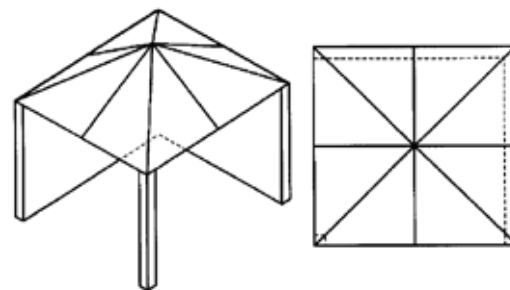

Figure 2. Partial Enclosure with overhead cover and no more than two walls.
- ▶ Within a partial enclosure that includes an overhead cover and no more than two walls. See Figure 2 & 3.